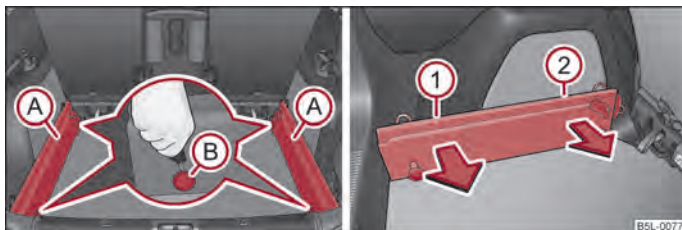

Fig. 64 Luggage compartment: Slacken check points/remove carrier rails
- Slacken the check points (B) ⇒ fig. 64 on the carrier rails using the vehicle key or a flat screwdriver.
- Grasp the carrier rail (A) at the position (1) and slacken it by pulling in the direction of the arrow.
- Grasp the carrier rail (A) at the position (2), slacken it by pulling in the direction of the arrow and take it out.